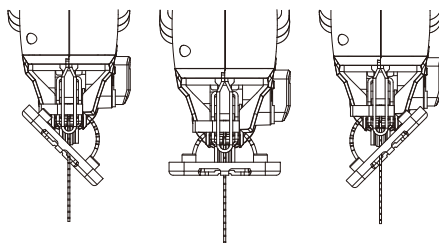

Fig. 11
The base plate (10) can be swivelled to the right or left to make bevel cuts up to 45° (Fig. 11). The base plate has lock-in slots at 0°, 15°, 30° and 45° on the left and right so that the precise bevel angle can be adjusted.